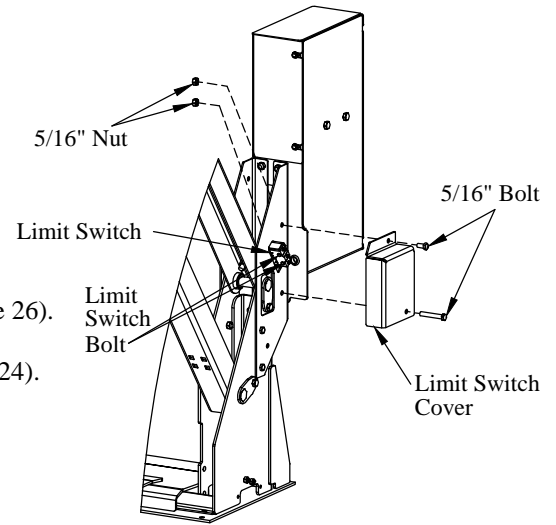

Figure 24: Limit Switch.
5. **Remove** the limit switch cover by removing two (2) 5/16" bolts and nuts (Figure 24).
6. **Loosen** the bolts holding the limit switch (Figure 24).
9. **Install** the limit switch cover with 5/16" bolts and nuts. Be careful not to over tighten the 5/16" bolts (Figure 24).